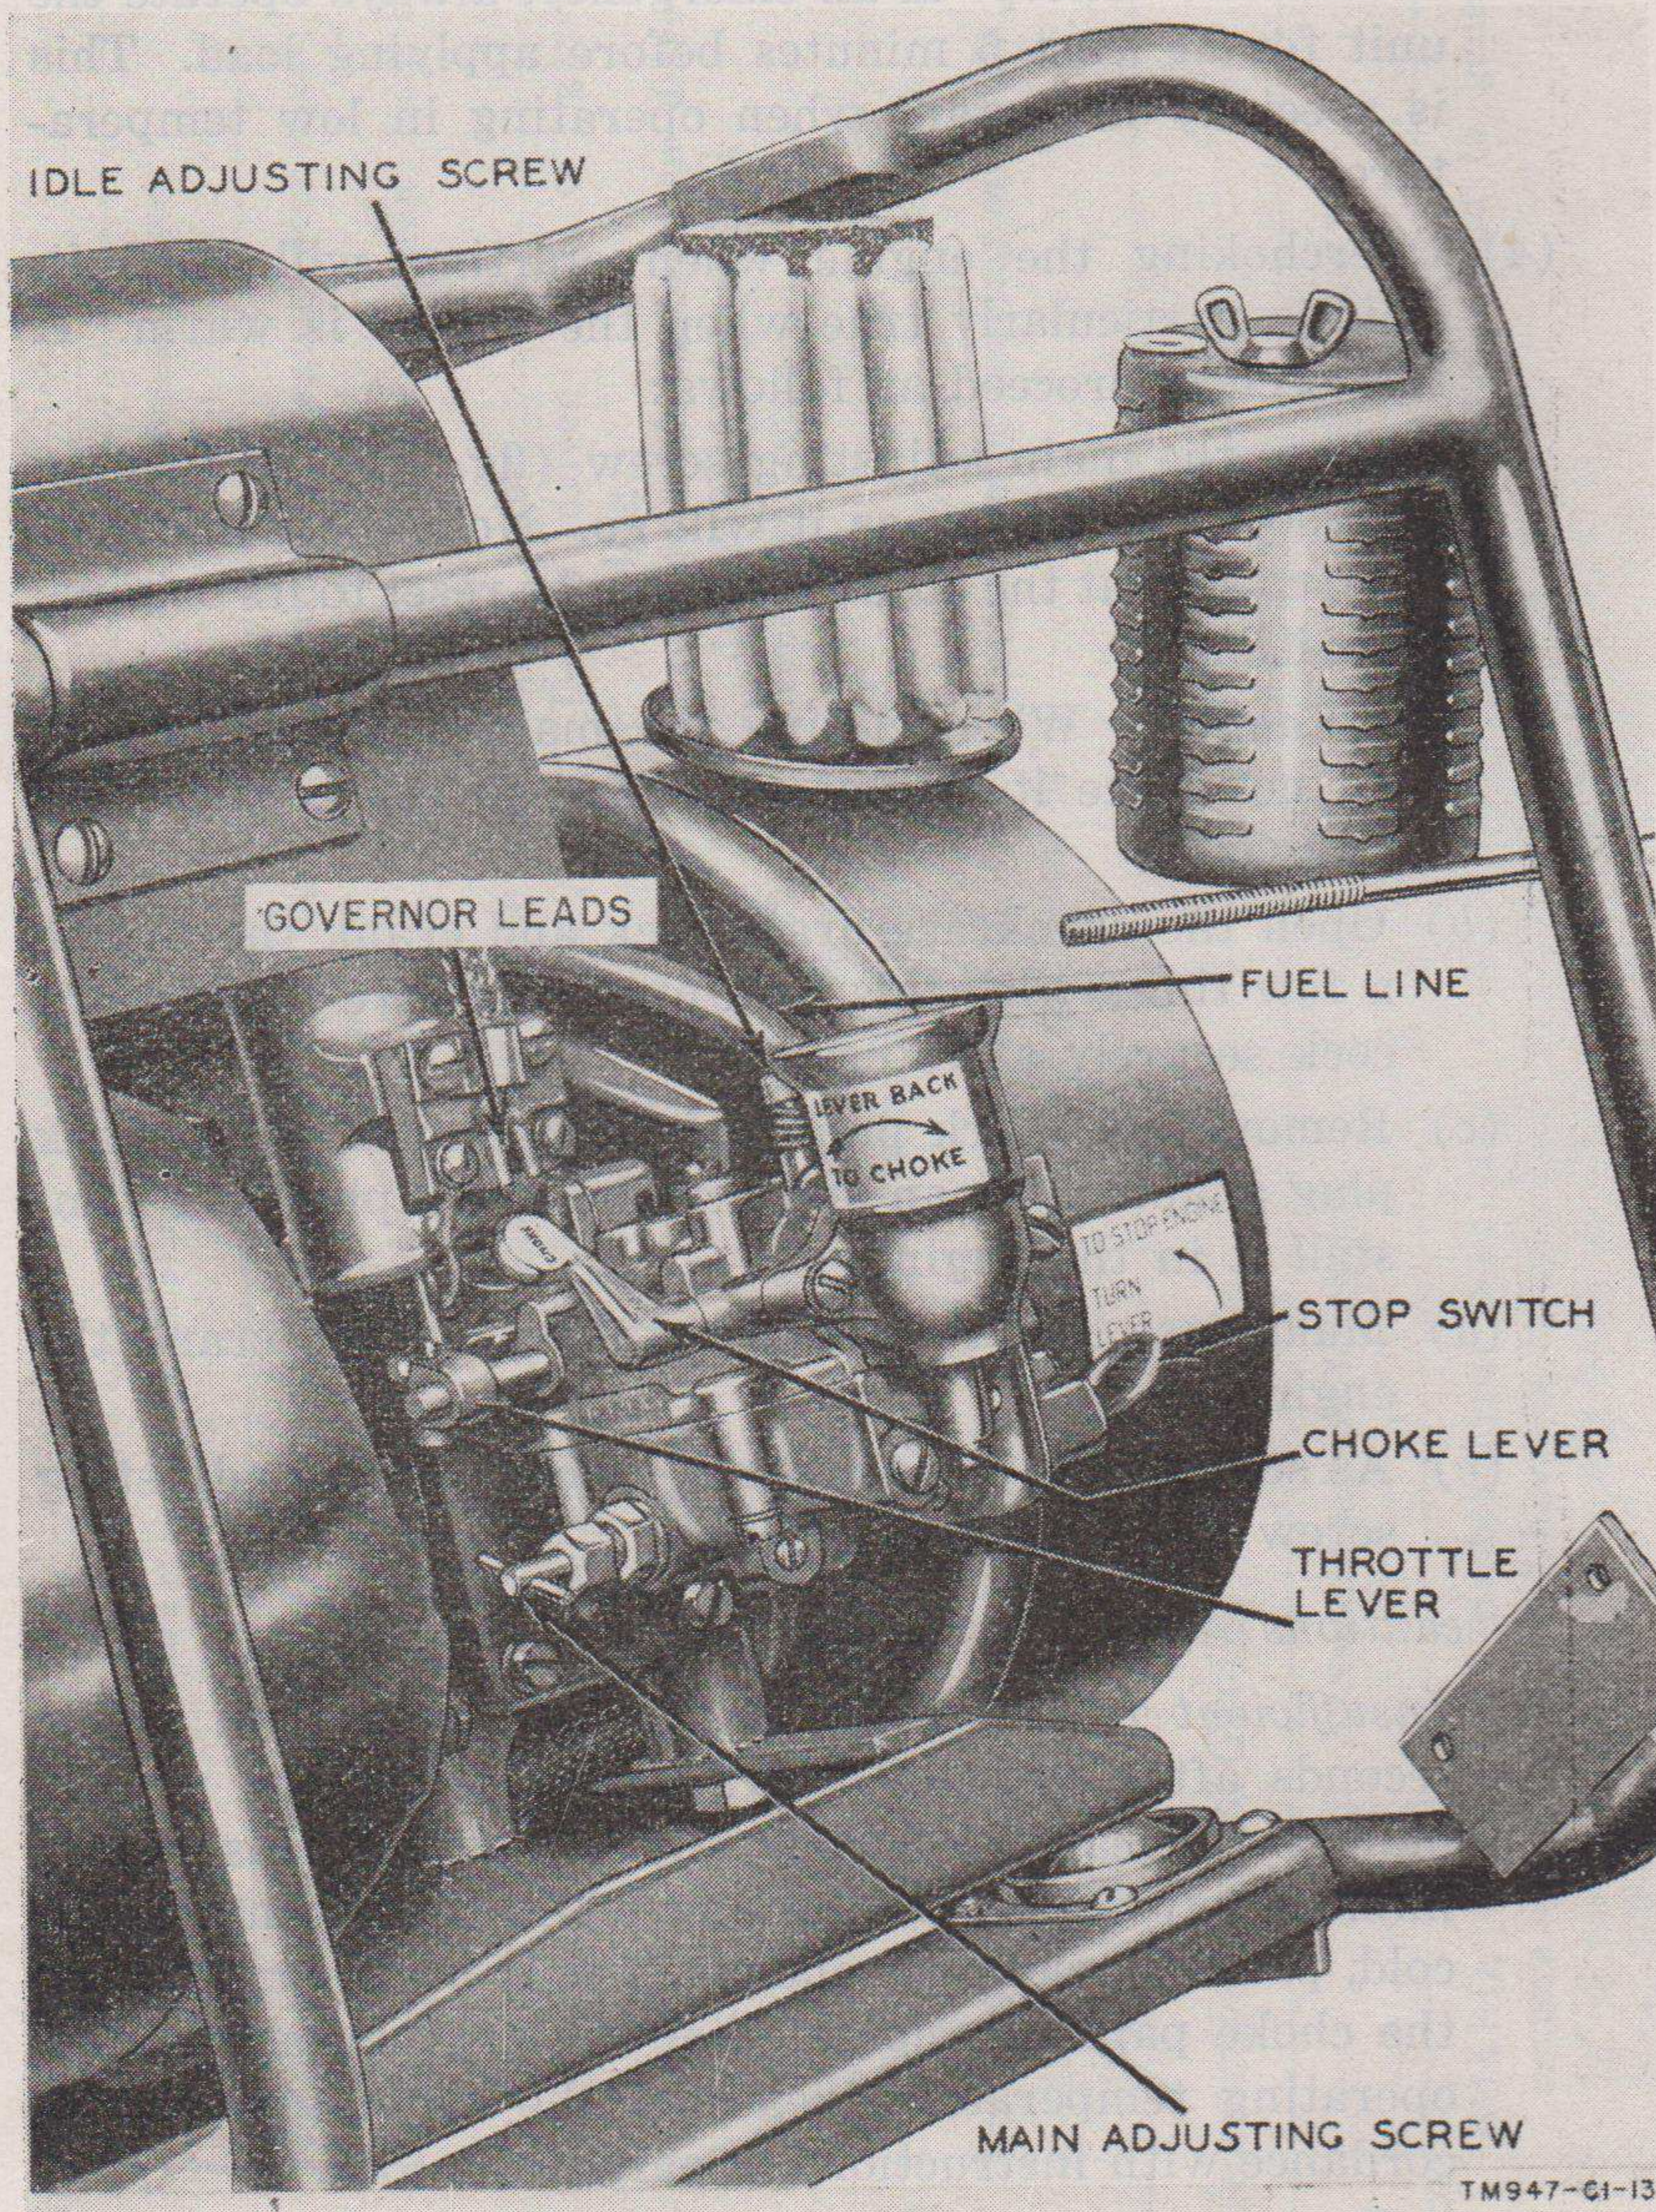

Figure 7.1 (Added) Power Units PE-210-A, -B, and -C, carburetor adjustments and controls.
(1) Move the choke lever to the closed position (fig. 7.1). To close the choke, move the lever toward the air cleaner.
(2) Slip the knotted end of the starter rope into the notch of the starter pulley and wind it clockwise around the pulley. Hold the unit frame with one hand and pull the starting rope vigorously with the other hand. If the
- (3) When the engine starts, move the choke lever away from the air cleaner to its fully open position. If the engine will not run unless the choke is partially closed, readjust the carburetor in accordance with instructions in paragraph 67.1.
- (4) Overchoking the engine when starting will flood it. This is particularly true when the engine is warm. If this occurs, proceed as follows:
- (a) Close the main adjusting screw (fig. 7.1) by turning it clockwise as far as it will go. Note the number of turns so that the adjustment can be reset to its original position.